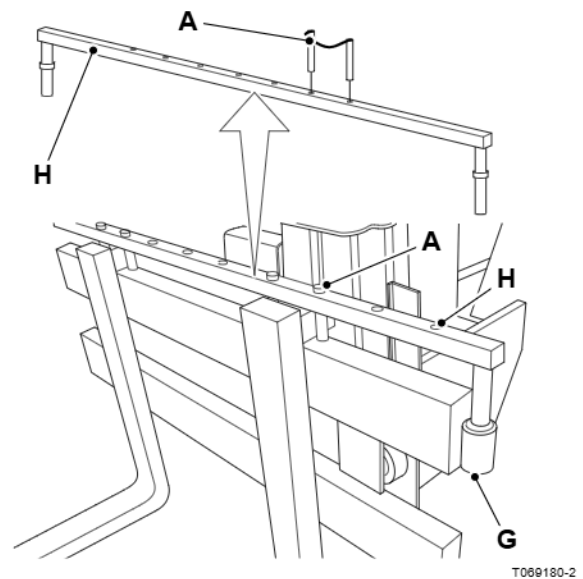

Fig 127. Bar Type Carriage
- 1 Remove the location pins **A**. → Fig 127. \(□ 160\)
- 2 Release the retaining clips **G** from the bar securing pins and remove the bar **H** from the carriage. → Fig 127. \(□ 160\)
- 4 Install the bar **H** onto the top of the carriage and secure into position with retaining clips **G**. → Fig 127. \(□ 160\)
- 6 Refit the two pairs of retaining pins **A** using one pair for each fork. Make sure that each pin drops freely into place and that each pair of pins is positioned as shown. → Fig 127. \(□ 160\).